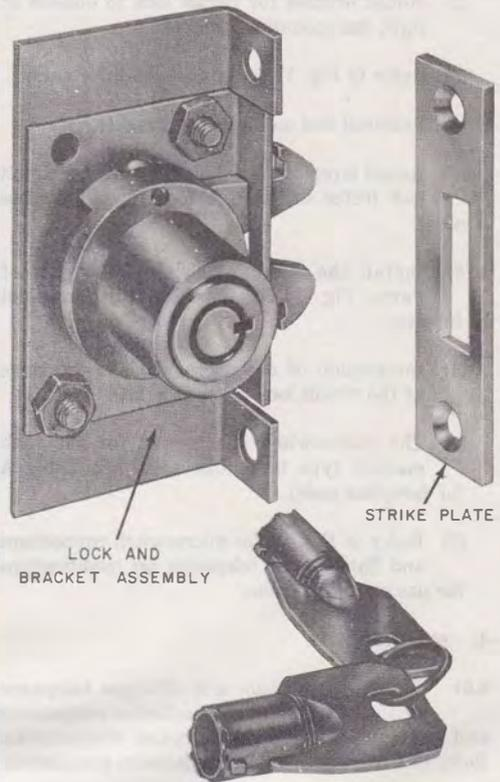

Fig. 9—D-180382 Kit of Parts
3.11 Install the mechanical door lock (D-180382 Kit of Parts, Fig. 9) in the 526-type telephone sets as follows: